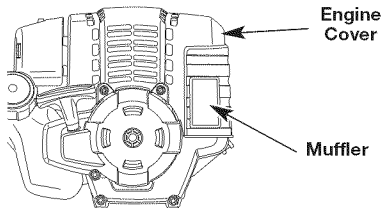

Fig. 41
2. Remove the engine cover (Fig. 41).